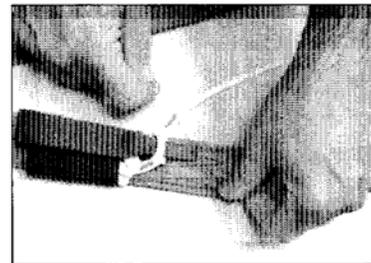

Figure 3
**Step 7** Tack the end of the toggle with one turn of doubled seal thread. The end of the toggle has been marked and punched to make this job easier. *Figure 3*